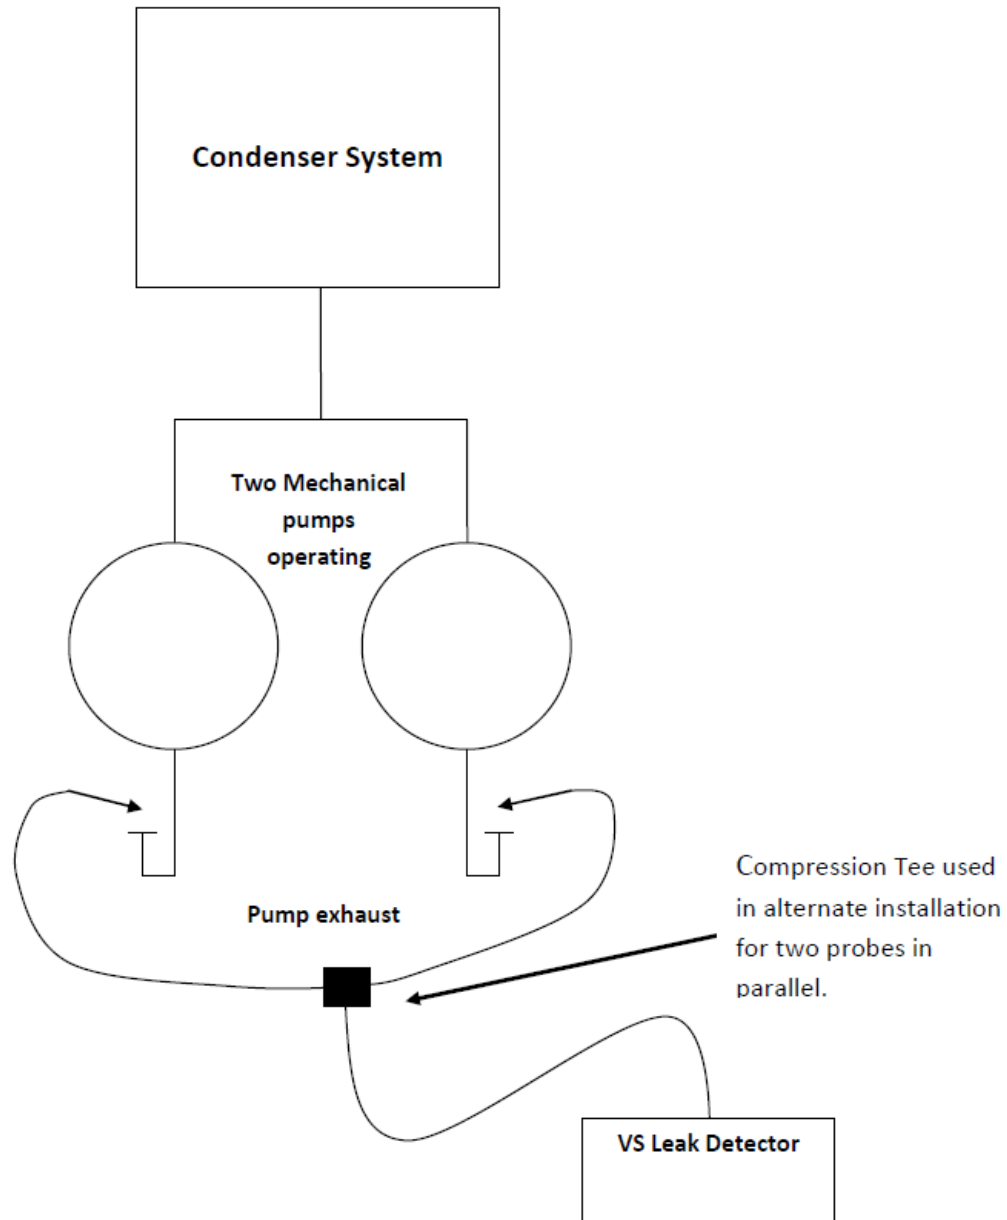

Figure 8 Two Vacuum Pump HE Probe Installation
- ❑ When used in the pump exhaust of two-pump installations, two probes can be connected together in parallel using a compression tee and a second probe assembly. (See Figure 8 on page 11).